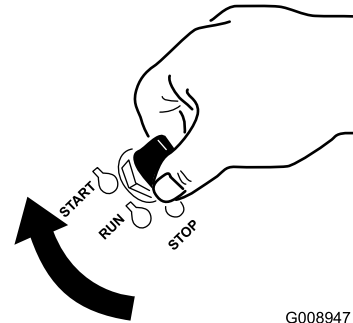

Figure 21
6. Turn the key in the ignition switch to the START position (Figure 21). When the engine starts, release the key.